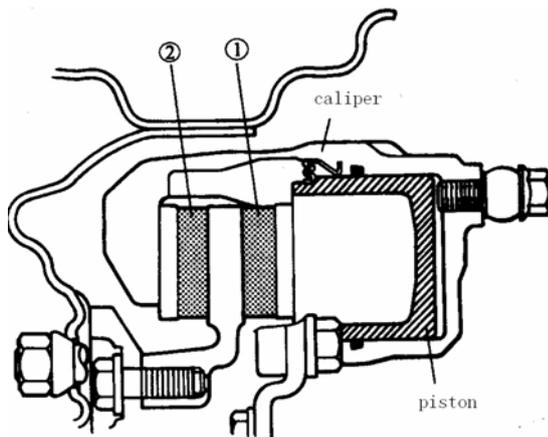

FIG.16-6
The single piston floating caliper type brake is employed in this model. One cylinder and one piston are used for this type. (The cylinder is constructed as a monoblock with the caliper.) Fluid pressure generated in the cylinder causes the pad ① on the piston side to press against the disc. At the same time, the floating type caliper body is moved to the left by the cylinder pressure, as shown in below Figure, which pulls pad ② against the disc and so brakes the wheel. (FIG.16-6)